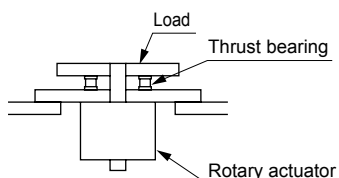

Fig. 1
- An axial load (thrust load) on the vane shaft may cause faulty operation to occur. Therefore, do not apply such loads. If this is unavoidable, use a structure with a thrust bearing as shown in Fig. 1.